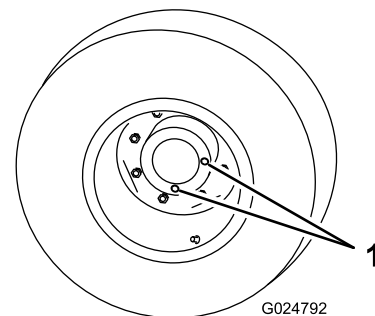

Figure 74
1. With machine on level surface, position a wheel so one of the check/drain plugs is at the lowest (6 o'clock) position (Figure 74).